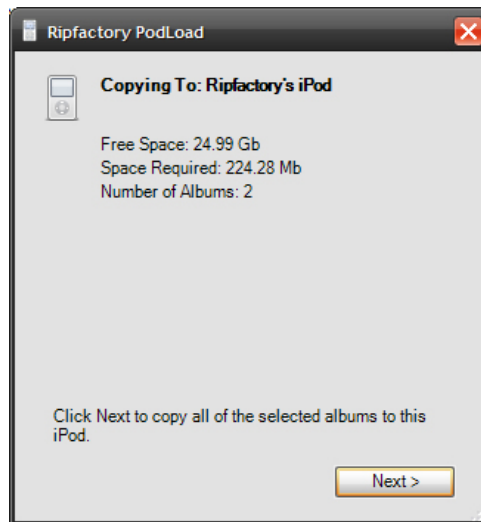
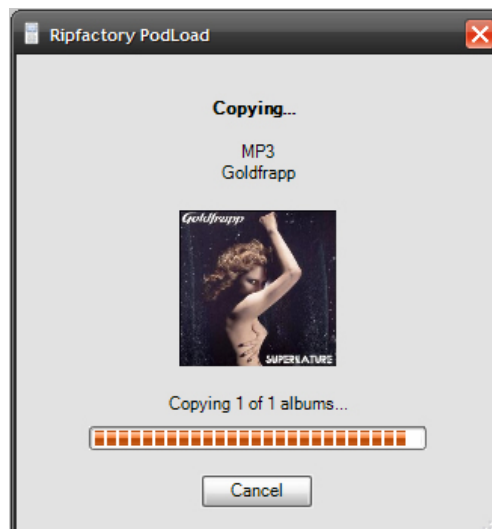

Figure 4.24 – Fourth screen of Podload Wizard
Figure 4.25 – Fifth and final screen of Podload Wizard
- If there is enough available iPod space to hold the entire selected folder, click next in figure 4.24 and loading will commence whilst showing the progress and active album being transferred (figure 4.25).
Once selected above, the normal file transfer screen (figure 4.25) will appear.